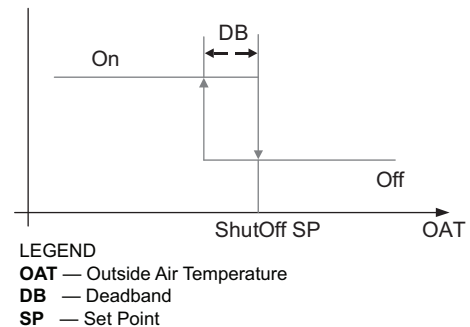

Fig. 80 — Hysteresis Settings
Hysteresis setting (DB) defaults to 2°F (–17°C). See Fig. 80.